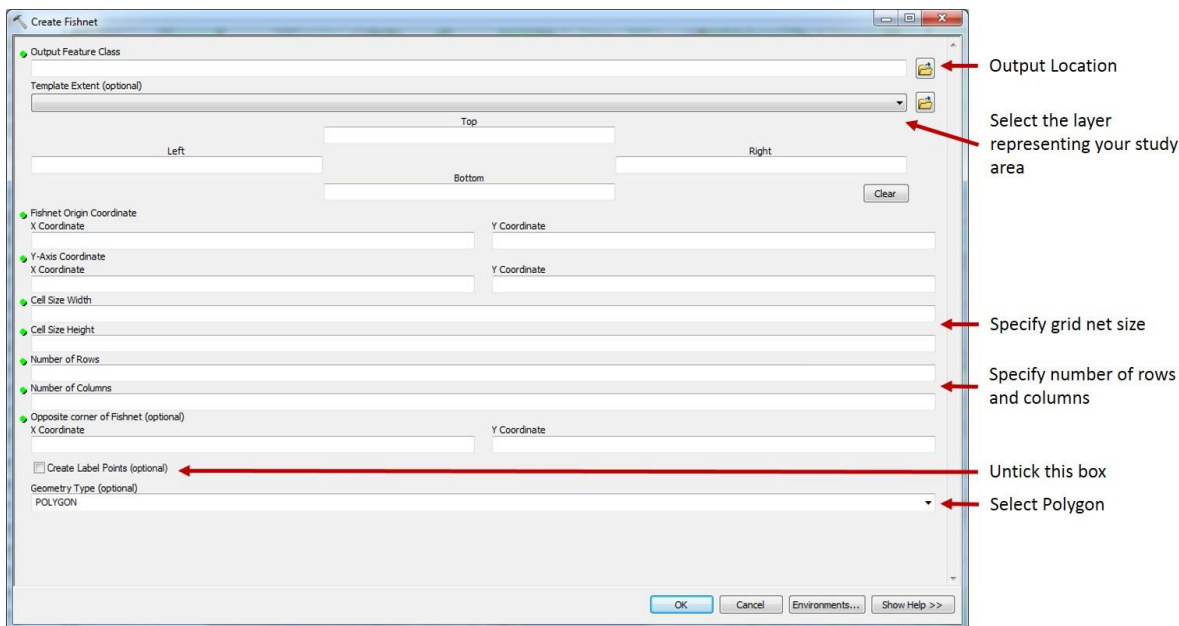

Figure 8.2 Create Fishnet tool in ArcGIS
- 4) Open the tool 'Create Fishnet' from the ArcGIS toolbox and fill in as per Figure 8.2 below.